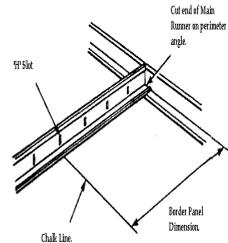

Fig.5
- Cut end of first Main Runner so that Cross Tee “H” slot aligns with chalk line and the cut end of the Main Runner sits on the perimeter angle. (See fig. 5)
- position the line at the bottom of the perimeter angle, at 90 degrees to the intended direction of the Main Runner, a distance equal to the appropriate Border Tile dimension from the wall. (See fig. 5)